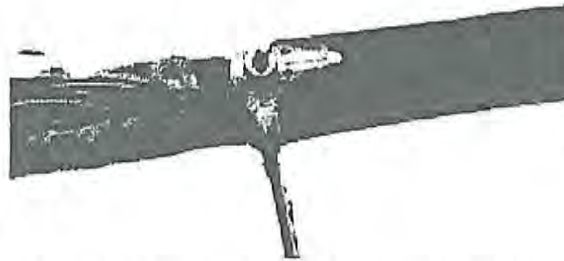

Figure 11 - Attaching Terminated Bond Strap to Gator Clamp
4.04 Attach the terminal of the bond strap to the stud of the lower plate of a Gator or Small Gator clamp between the tail ends of the upper and lower plates (Figure 11). Be sure that the insulation on the bond wire is not pinched between the clamp plates. Secure the upper clamp plate with a hex nut with a captured external tooth lock washer. Tighten the nut with a torque of 10 to 40 inch-pounds.